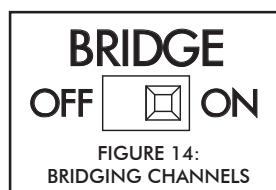

FIGURE 14: BRIDGING CHANNELS
1. Set the zone's BRIDGE switch to the ON position (see Figure 14).